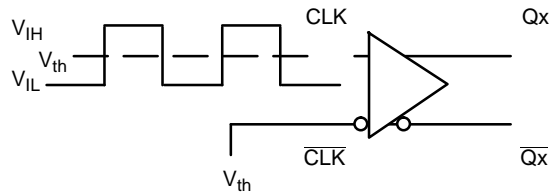

Figure 5. Differential Input Driven Single-Ended  $V_{th}$  Schema
**DIFFERENTIAL INPUTS DRIVEN SINGLE-ENDED** (Figures 5, 6)